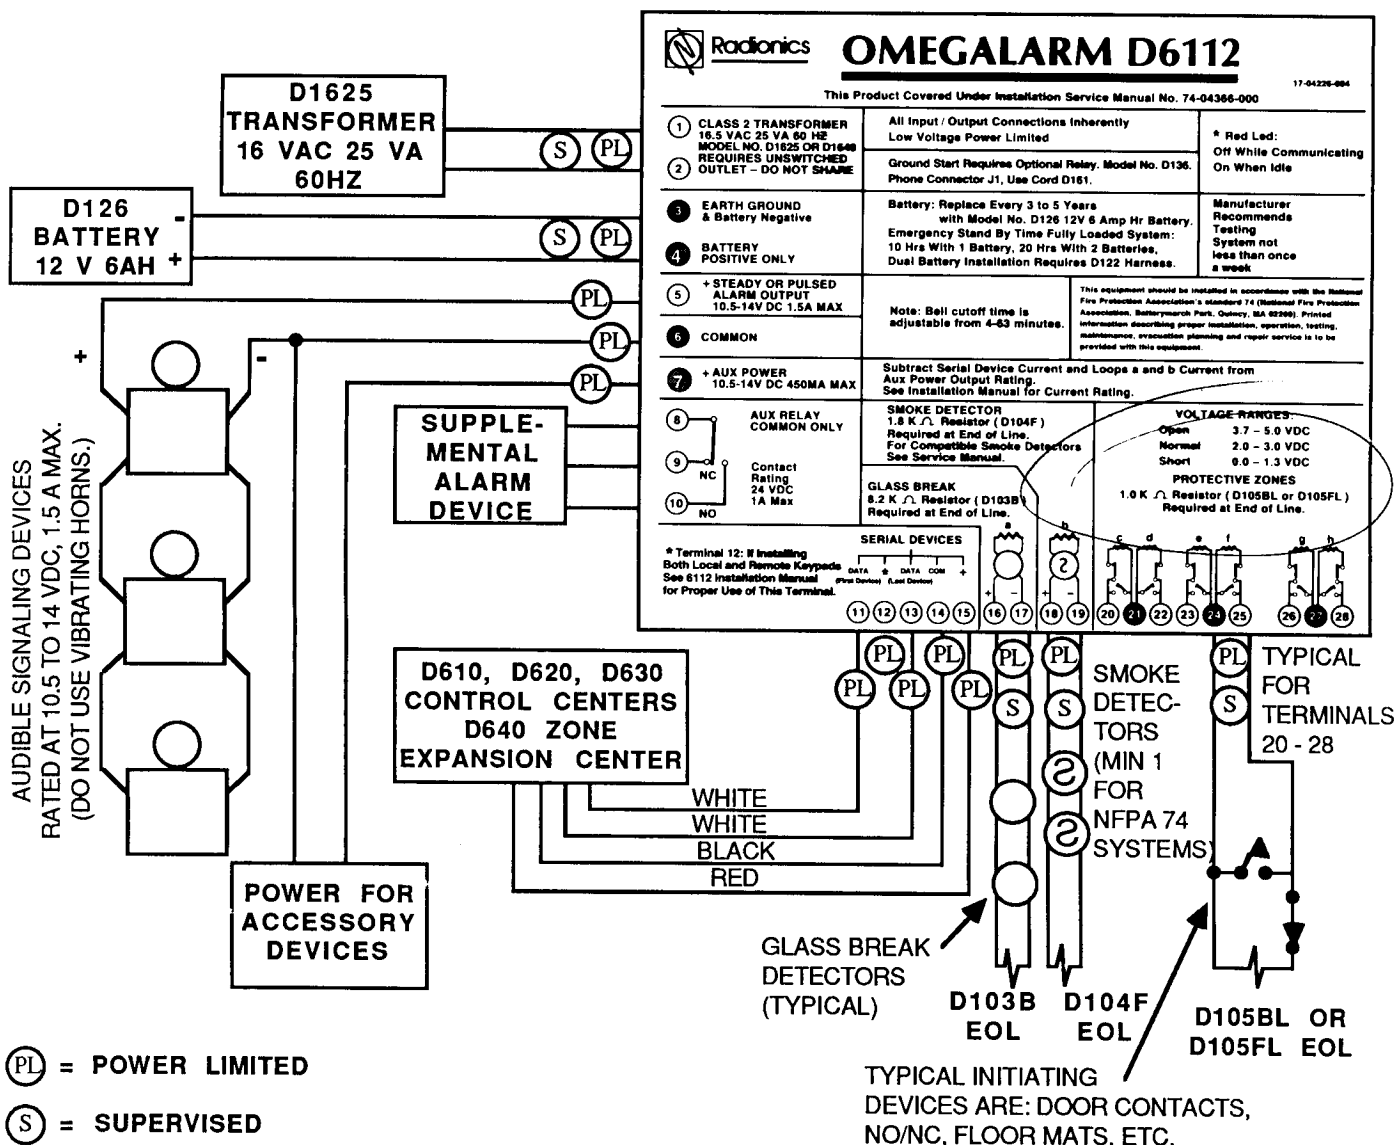

Figure 2: TYPICAL D6112 SYSTEM INSTALLATION
- 2.3 **Faceplate** - The D6112 faceplate is mounted on the printed circuit board, and contains short descriptions of each terminal. Figure 2 displays a typical installation of the D6112 and accessories.